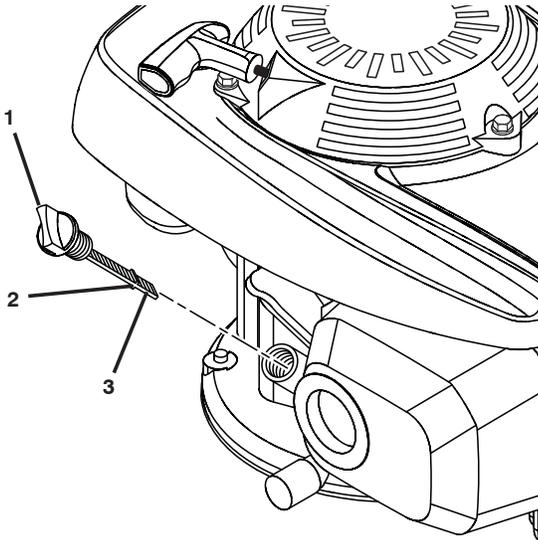

Figure 24
6. Wait one minute to allow oil to settle. Use guage on oil fill cap/dipstick for checking level. Insert dipstick into the tube and rest the oil fill cap on the tube. **DO NOT** thread the cap into the tube when taking reading (Figure 24).